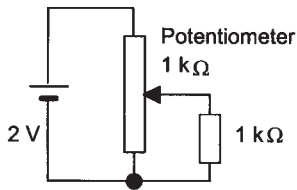

Figure 12.28 Problem 6
- 6 Determine the current through the $1\text{ k}\Omega$ resistor in Figure 12.28 when the slider of the potentiometer is located at its midpoint.